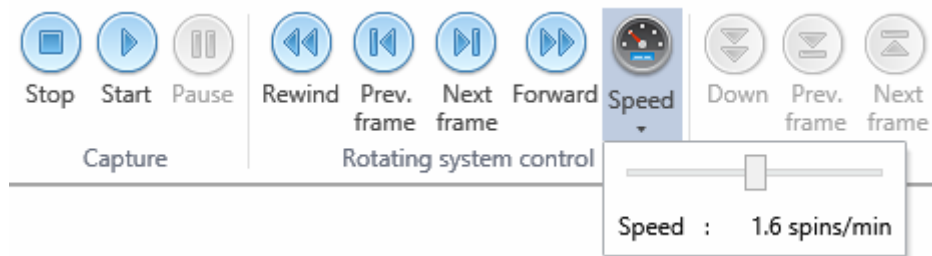

Figure 9.
3. Select the rotation speed (in spins per minute) using “Speed” slider (Fig. 9). To check the speed of rotation, it is recommended to operate the platform using “Forward” button
3. Select the rotation speed (in spins per minute) using “Speed” slider (Fig. 9). To check the speed of rotation, it's recommended to operate the platform using “Forward” button.